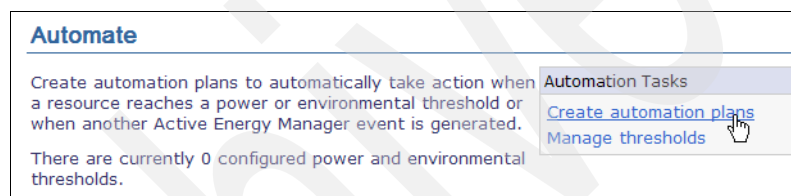

Figure 6-81 Creating an event automation plan - 1
2. From the Active Energy Manager home page, click **Create Automation Plans** under the Automate heading (Figure 6-81).